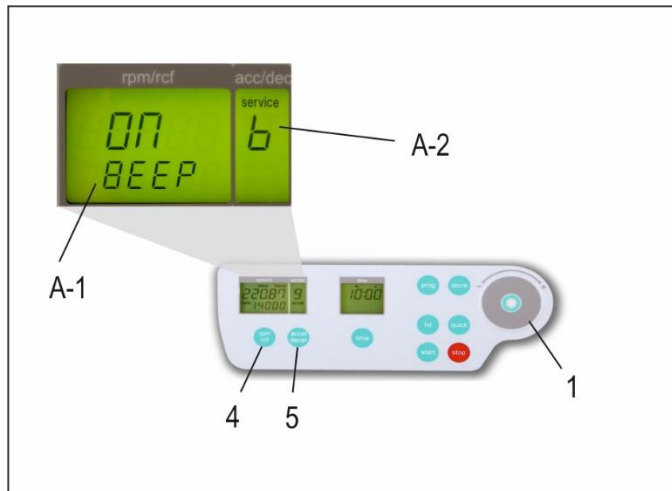

Figure 10
Proceed as illustrated, under point 1.8.1, to enter this program mode, press the key, "accel/decel" (5). In the display, "accel/decel" (A-2) flashes the word, "service". Select the letter, "b" with the control field (1). As a result, appearing in the display, "rpm/rcf" (A-1), the word "ON/BEEP". By pressing the key, "rpm/rcf" (4), the keyboard sound (On) or (Off) can be turned on, with the control field (1), (see Figure 10).